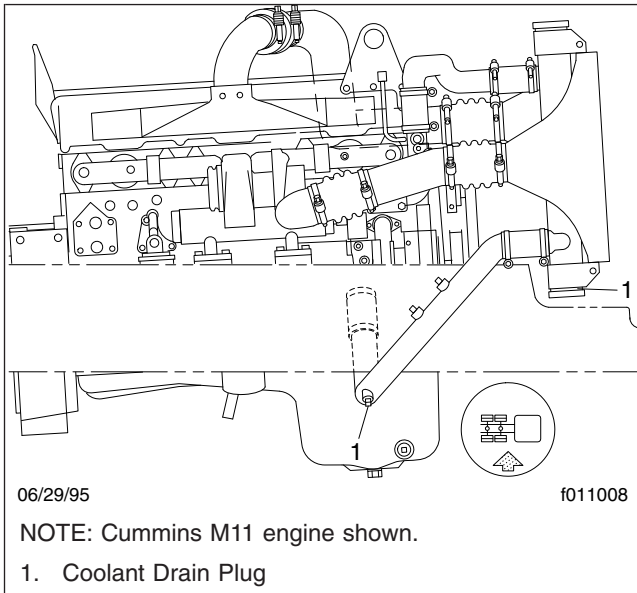

Fig. 4, Coolant Drain Plug Location
5. Remove the drain plugs from the radiator side tank, the lower tank on auxiliary radiators, and at the lower radiator outlet pipe elbow, if equipped. See **Fig. 4**. Allow the coolant to drain.